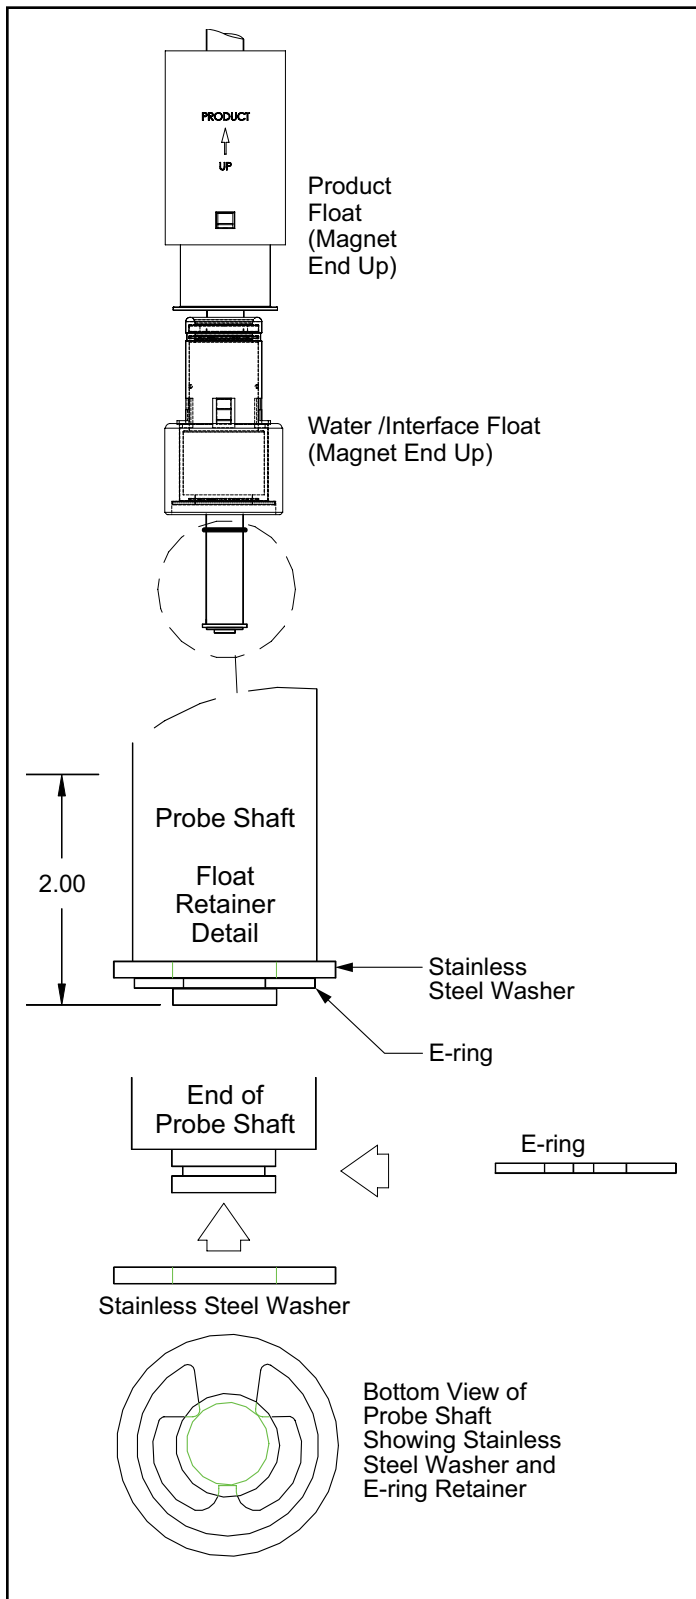

Figure 2: Float & Retainer Installation Detail
- Use a small flat bladed screwdriver to pry-off/remove the E-Ring from the bottom of the probe shaft, then remove the stainless steel float retainer washer. See Figure 2.
- Install the floats per Figure 2. Product float first (magnet end up) and then the water float (magnet end up).
- Install the stainless steel, "float retainer" washer at the bottom of the probe shaft. Slide the E-Ring into the groove below the stainless steel washer. See Figure 2.